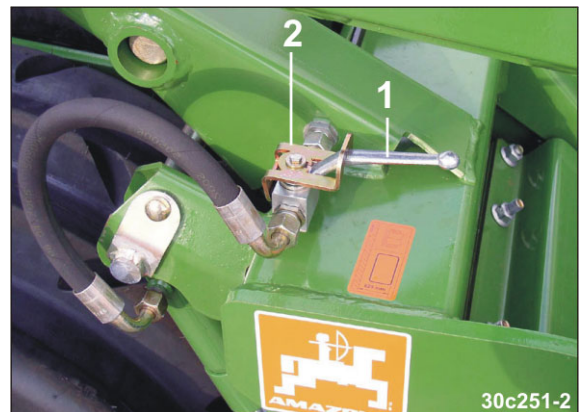

Fig. 254
3. Close the hydraulic stop-cocks (Fig. 254/1). The closed hydraulic stop-cock is illustrated.
4. Secure each hydraulic stop-cock with an anti-rotation lock (Fig. 254/2).
Secure each hydraulic stop-cock with the anti-rotation lock (Fig. 254/2) against unintentional opening.